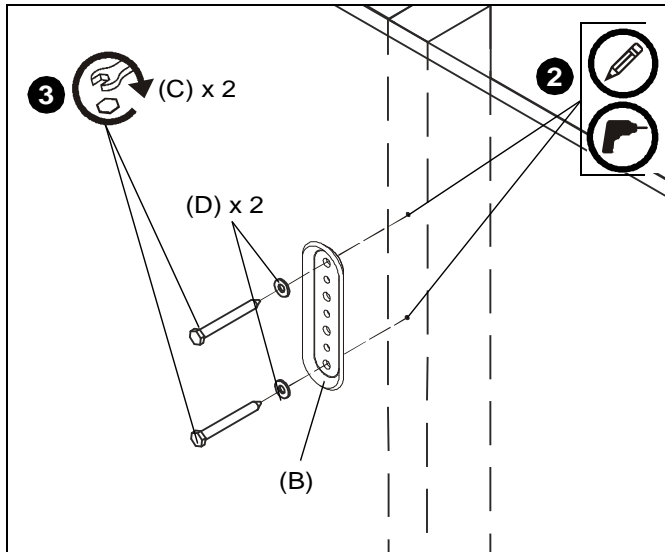

Figure 1
1. Using the 3/16" hex key (G), remove the button head cap screw securing the monitor interface to the arm or other modular flat panel arm component (i.e. desk clamp).
2. Using the wall bracket as a template, mark and drill two 1/8" pilot holes to a minimum depth of 1 1/2". (See Figure 1)
3. Using two 1/4 x 2 1/2" hex head lag screws (C) and two 1/4" washers (D), secure the wall bracket (B) to wall. (See Figure 1)